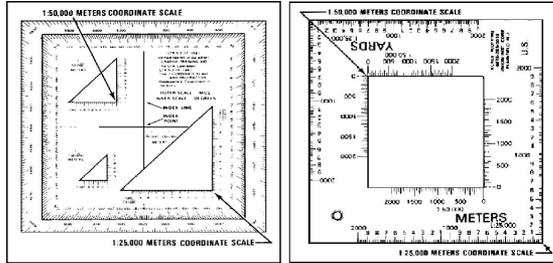

Figure 071-329-1002-3. Coordinate scale and protractor (left) and plotting scale (right)
- Determine point grid coordinates with coordinate scale (figure 071-329-1002-3).